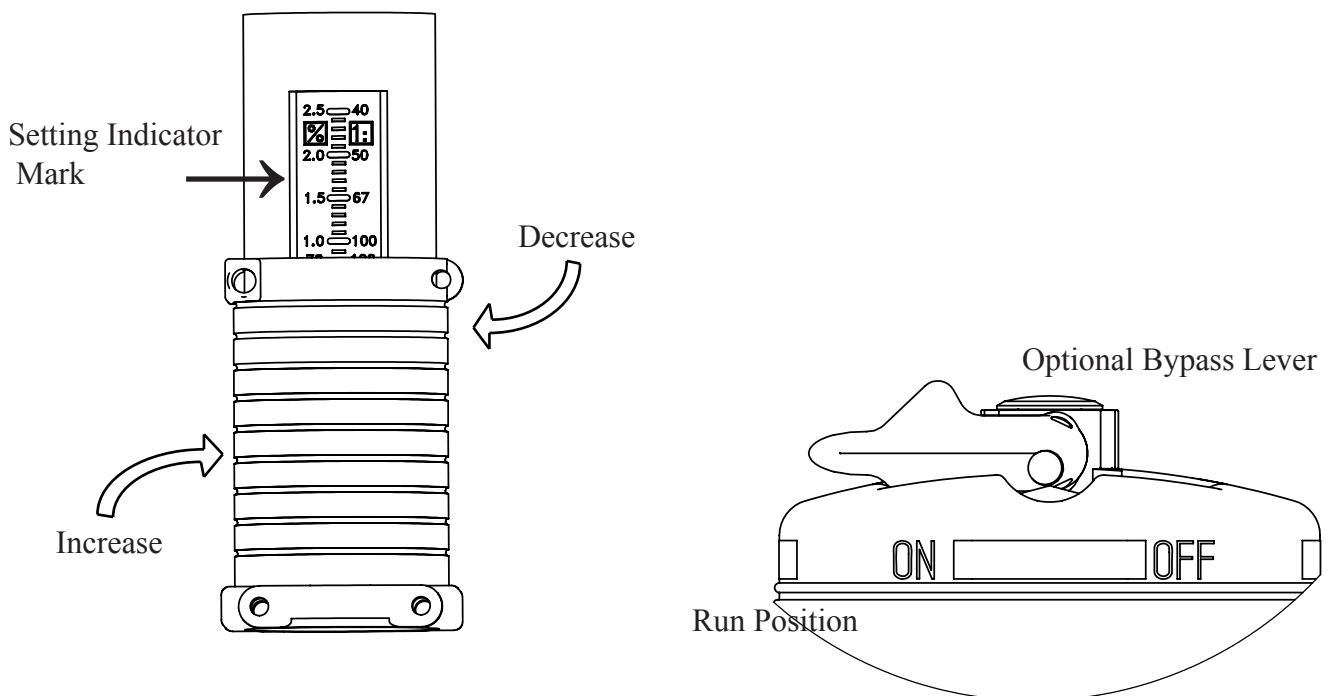

Fig.5
CHANGE FEED RATE: The feed rate on the injector is adjustable EVEN WHILE OPERATING AND UNDER PRESSURE. Rotate the “Ratio Adjustment Sleeve” (61) to change the solution injection ratio. See fig. 5,. The setting indicator mark in the sleeve opening indicates the approximate ratio of injection setting. Check outlet water for chemical to assure desired feed rate is being delivered.